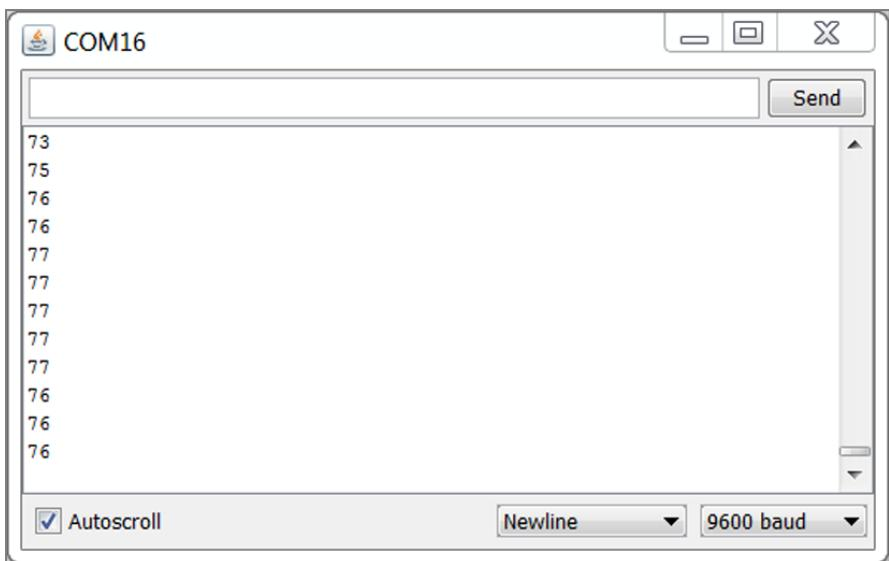

Figure 11-17: Wireless incoming data shown with the serial monitor
5. Before using this to control the Processing sketch, you can open a serial monitor window from the Arduino IDE to see the input coming in through your XBee. Select the serial port that your Explorer is connected to and open the serial monitor to see the values streaming in (see Figure 11-17).